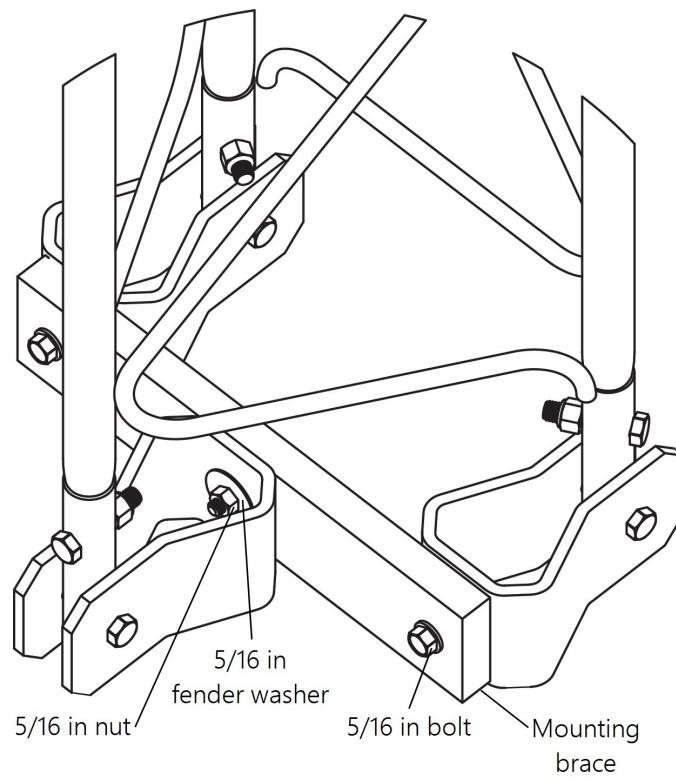

FIGURE 7-6. Tower mounting brace removal
2. Remove the three 5/16-inch bolts, nuts, and fender washers from the tower mounting brace (FIGURE 7-6 (p. 14)).